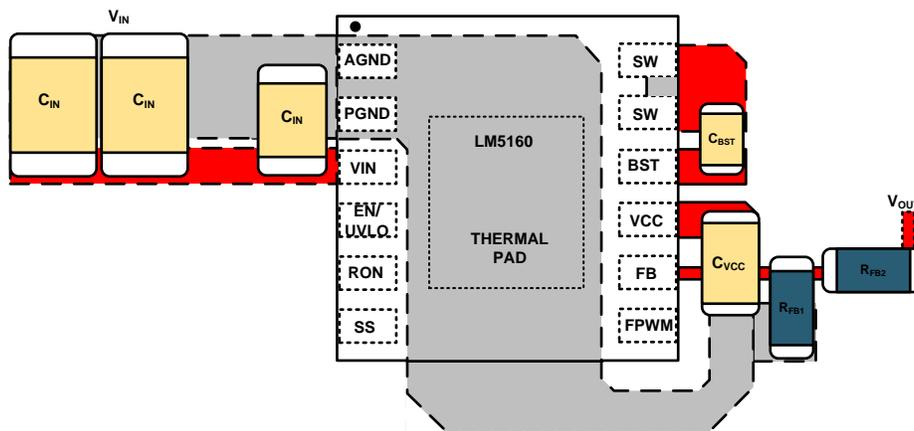

Figure 35. Placement of Bypass Capacitors
- C_{IN} : The loop consisting of input capacitor (C_{IN}), VIN pin, and PGND pin carries the switching current. Therefore, the input capacitor should be placed close to the IC, directly across VIN and PGND pins, and the connections to these two pins should be direct to minimize the loop area. In general it is not possible to place all of input capacitances near the IC. A good practice is to use a 0.1 μF to 0.47 μF capacitor directly across the VIN and PGND pins close to the IC with the remaining bulk capacitor as close as possible (see Figure 35).
- C_{VCC} and C_{BST} : The VCC and bootstrap (BST) bypass capacitors supply switching currents to the high and low side gate drivers. These two capacitors should also be placed as close to the IC as possible, and the connecting trace length and loop area should be minimized (See Figure 35).